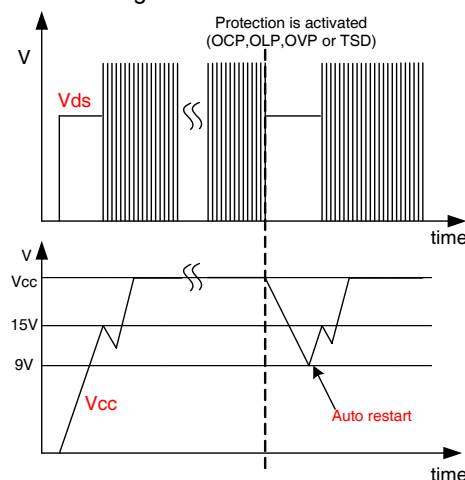

Figure 24. Auto restart operation after protection
**3. Protection function:** FS8S0765RCB has four self-protective functions such as abnormal over current protection (AOCP), overload protection (OLP), over-voltage protection (OVP) and thermal shutdown (TSD). Because these protection circuits are fully integrated into the IC without external components, the reliability can be improved without cost increase. In the event of these fault conditions, the FPS enters into auto-restart operation. Once the fault condition occurs, switching operation is terminated and MOSFET remains off, which forces  $V_{CC}$  to be reduced. When  $V_{CC}$  reaches 9V, the protection is reset and the supply current reduces to 80  $\mu$ A. Then,  $V_{CC}$  begin to increase with the current provided through the start-up resistor. When  $V_{CC}$  reaches 15V, the FPS resumes normal operation if the fault condition is removed. In this manner, the auto-restart alternately enables and disables the switching of the power MOSFET until the fault condition is eliminated, as illustrated in Figure 24.